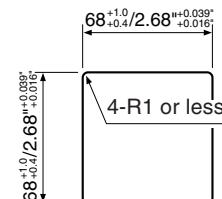

Fig. 2
- Cut out an opening to match the dimensions shown (Fig. 2).